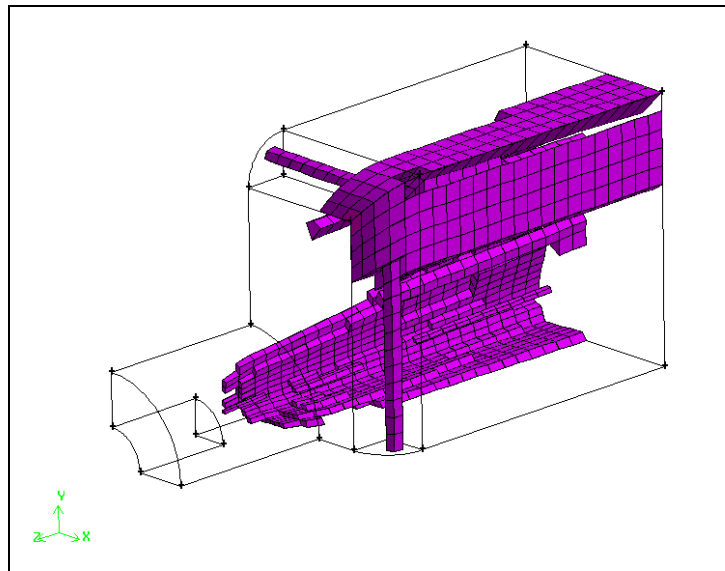

Figure 4-34: Elements within a specified quality range
*Figure 4-34 shows the view in the graphics window if you click on the fifth bar from the left on the histogram (representing cells with a skewness value between 0.4 and 0.5). These low values for the maximum skewness indicate that the mesh is acceptable. The histogram consists of a bar chart representing the statistical distribution of mesh elements with respect to the specified **Quality Type**. Each vertical bar on the histogram corresponds to a unique set of upper and lower quality limits.*